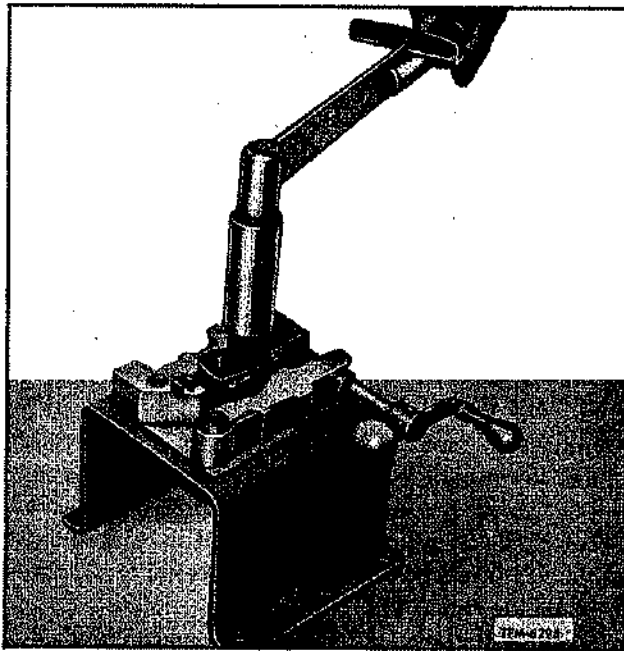

Figure 23E—Tightening Injector Nut with Torque Wrench
4. Invert the injector assembly in the assembly fixture, and by means of socket wrench and torque wrench (fig. 23E) tighten injector nut to torque of 55 to 65 ft.-lbs. Do not exceed specified torque, otherwise plunger will bind in bushing.